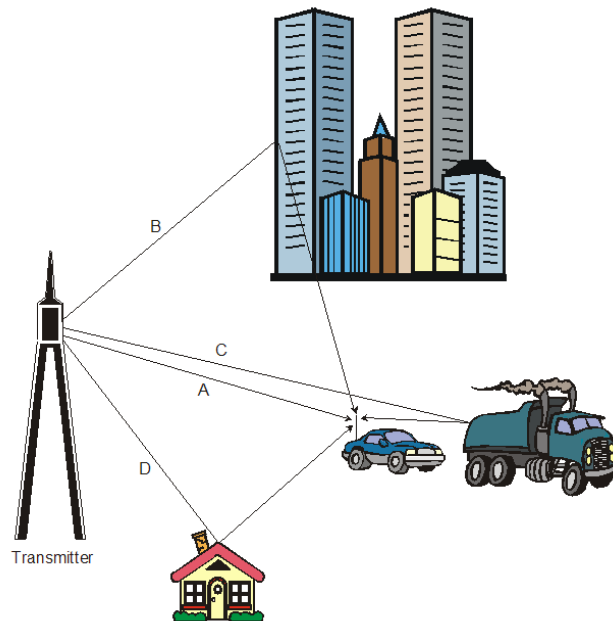

Figure 3-1: Typical Multi-path Fading Scenario
The radio propagation effects can be characterized by fast fading (also known as multi-path fading), relative path delay, relative path loss, and slow shadow fading (also known as log-normal fading). Different mobile environments generate various combinations of these effects. The cause of each of these characteristics will be discussed along with their effect on the transmitted signal. All of these characteristics can be demonstrated with a simple transmitter to receiver diagram. Figure 3-1 is a diagram of a typical mobile receiver (the car) as it drives along a roadway. Paths A, B, C, and D depict just four of the many signal paths from the transmitter to receiver.
As shown in Figure 3-1, multiple versions of the originally transmitted signal show up at the receiver each having taken a different route (A-D) through the radio propagation channel. Because each of these macroscopic signal paths takes a different route through the topology of the environment they each travel a different distance from transmitter to receiver. This difference in distance causes the paths to arrive at the receiver staggered in time and at a different average power level.
Relative path delay is a phenomenon where individual signal paths from the transmitter to the receiver arrive at different times. An example of this is shown in Figure 3-1 between Paths (A) and (C). Path (C) will arrive at the receiver (the automobile) a finite time after signal Path (A). The net effect of the arrival time difference is to spread the originally transmitted signal at the receiver in time. In a digital wireless communications this will cause received symbols to overlap resulting in inter-symbol interference.